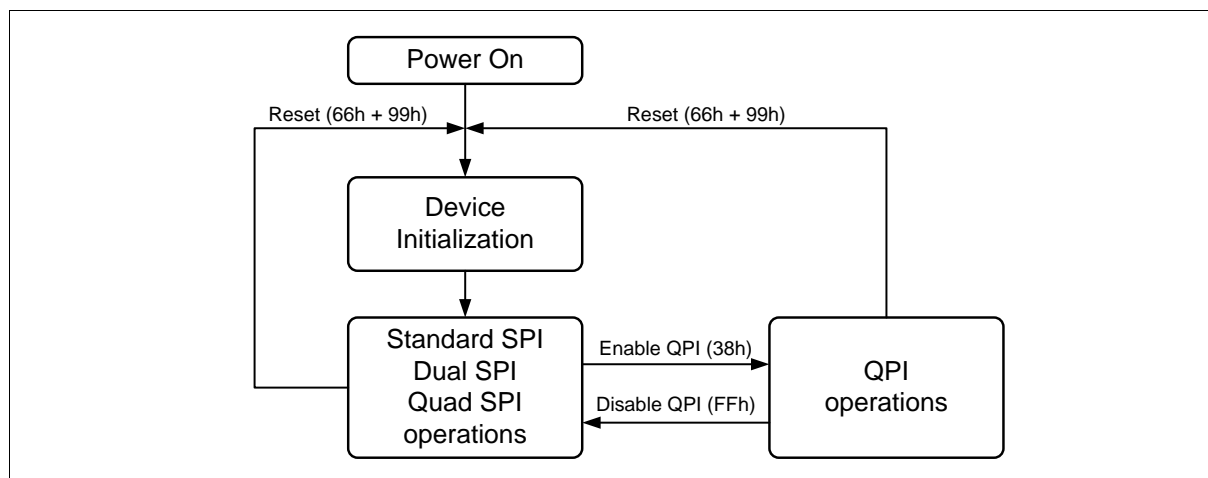

Figure 2 FM25W16A Serial Flash Memory Operation Diagram
The FM25W16A supports Quad Peripheral Interface (QPI) operations only when the device is switched from Standard/Dual/Quad SPI mode to QPI mode using the “Enable QPI (38h)” instruction. The typical SPI protocol requires that the byte-long instruction code being shifted into the device only via DI pin in eight serial clocks. The QPI mode utilizes all four DQ pins to input the instruction code, thus only two serial clocks are required. This can significantly reduce the SPI instruction overhead and improve system performance in an XIP environment. Standard/Dual/Quad SPI mode and QPI mode are exclusive. Only one mode can be active at any given time. “Enable QPI (38h)” and “Disable QPI (FFh)” instructions are used to switch between these two modes. Upon power-up or after a software reset using “Reset (99h)” instruction, the default state of the device is Standard/Dual/Quad SPI mode. To enable QPI mode, the non-volatile Quad Enable bit (QE) in Status Register-2 is required to be set. When using QPI instructions, the DI and DO pins become bidirectional DQ_0 and DQ_1 , and the WP# and HOLD# pins become DQ_2 and DQ_3 respectively. See Figure 2 for the device operation modes.